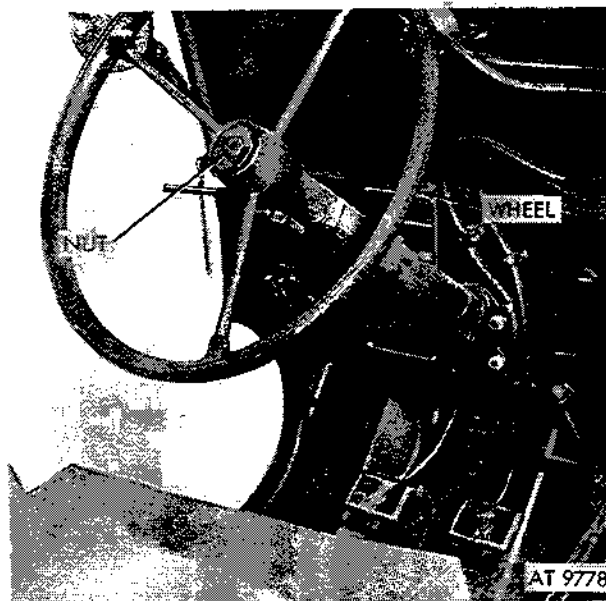

Figure 2-356. Remove steering wheel shaft nut.
(1) Remove horn switch assembly (para 2-117).
(2) Remove steering wheel shaft nut (fig. 2-356).